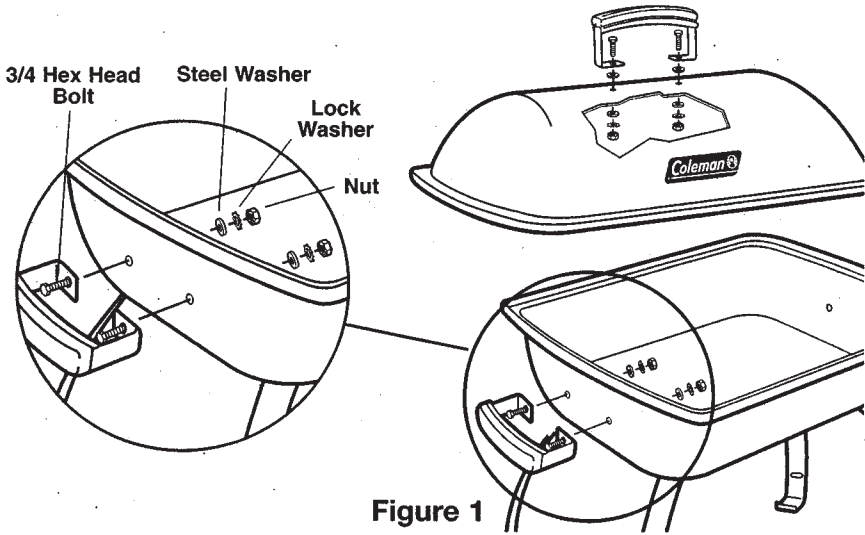

Figure 1
2. Assemble handles to lid and firebox as shown in **Figure 1**, using  $\frac{3}{4}$ " bolts. Be careful not to overtighten bolts against porcelain surfaces which could crack if bolts are too tight.